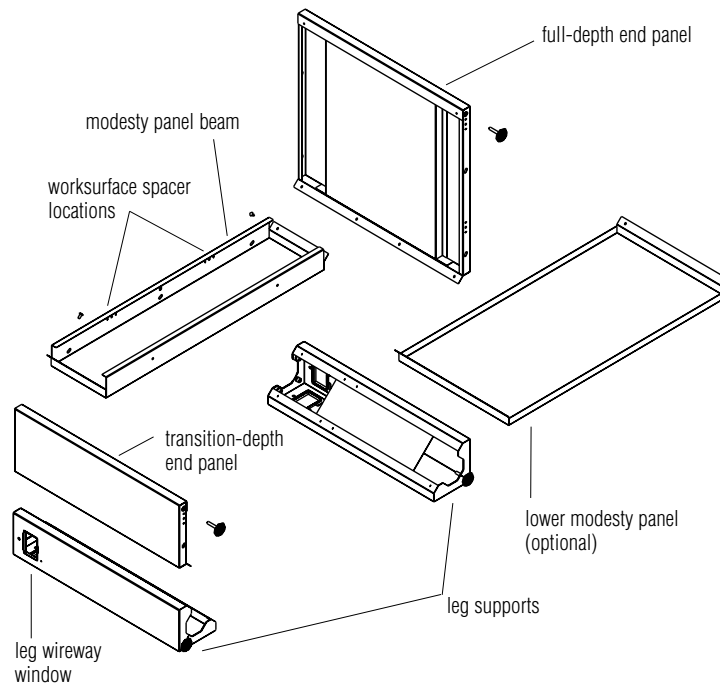

Figure 1
1. Remove all components from carton and locate hardware pack. Assemble one glide to each leg support on end with single-threaded inset. Attach leg wireway windows from inside of leg by hooking the long lip onto the rectangular cutout in leg support, flex the short lip slightly to clear cutout and push into place (Figure 1).
2. Place two leg supports on a soft surface approximately the same width as the desk. The open face of the triangular support should face up and toward the center of the workstation. Place a modesty panel beam between the leg supports, aligning holes in each flange with those of the leg supports. Secure with four $\frac{1}{4}$ -20 x $\frac{1}{2}$ screws (Figure 1).
3. Refer to space plan to determine whether the unit is to have full- or transition-depth end panels and their location. Align holes in end panel flange with those of the leg support. Secure with three $\frac{1}{4}$ -20 x $\frac{1}{2}$ screws. Assemble glide to the threaded insert facing the same direction as the leg support glides and adjust to approximately the same height (Figure 1).
4. If required, install lower modesty panel below modesty panel beam by aligning holes in each flange with those of the leg supports. Secure with four $\frac{1}{4}$ -20 x $\frac{1}{2}$ screws (Figure 1).